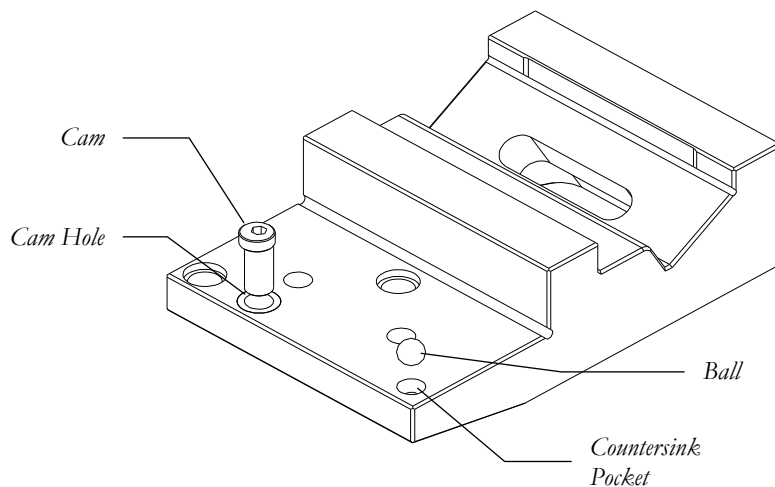

Figure 2
STEP 2. ASSEMBLING THE TD03 AND WORK PIECE HOLDER Hold the TD03 upside down in the palm of your hand. Have the clamp screw hole toward you as shown in Fig. 2.